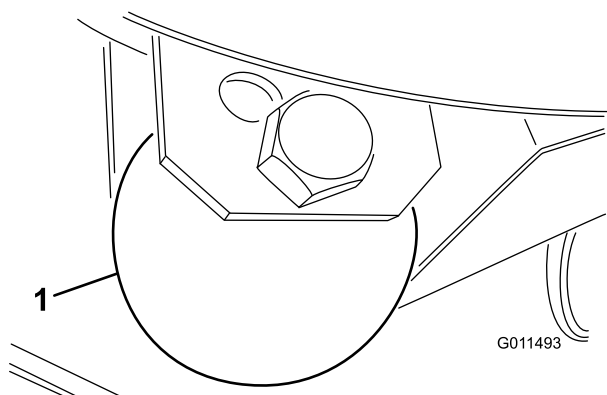

Figure 28
1. Remove the bolt and nut securing the gage wheel to the cutting unit brackets (Figure 28).